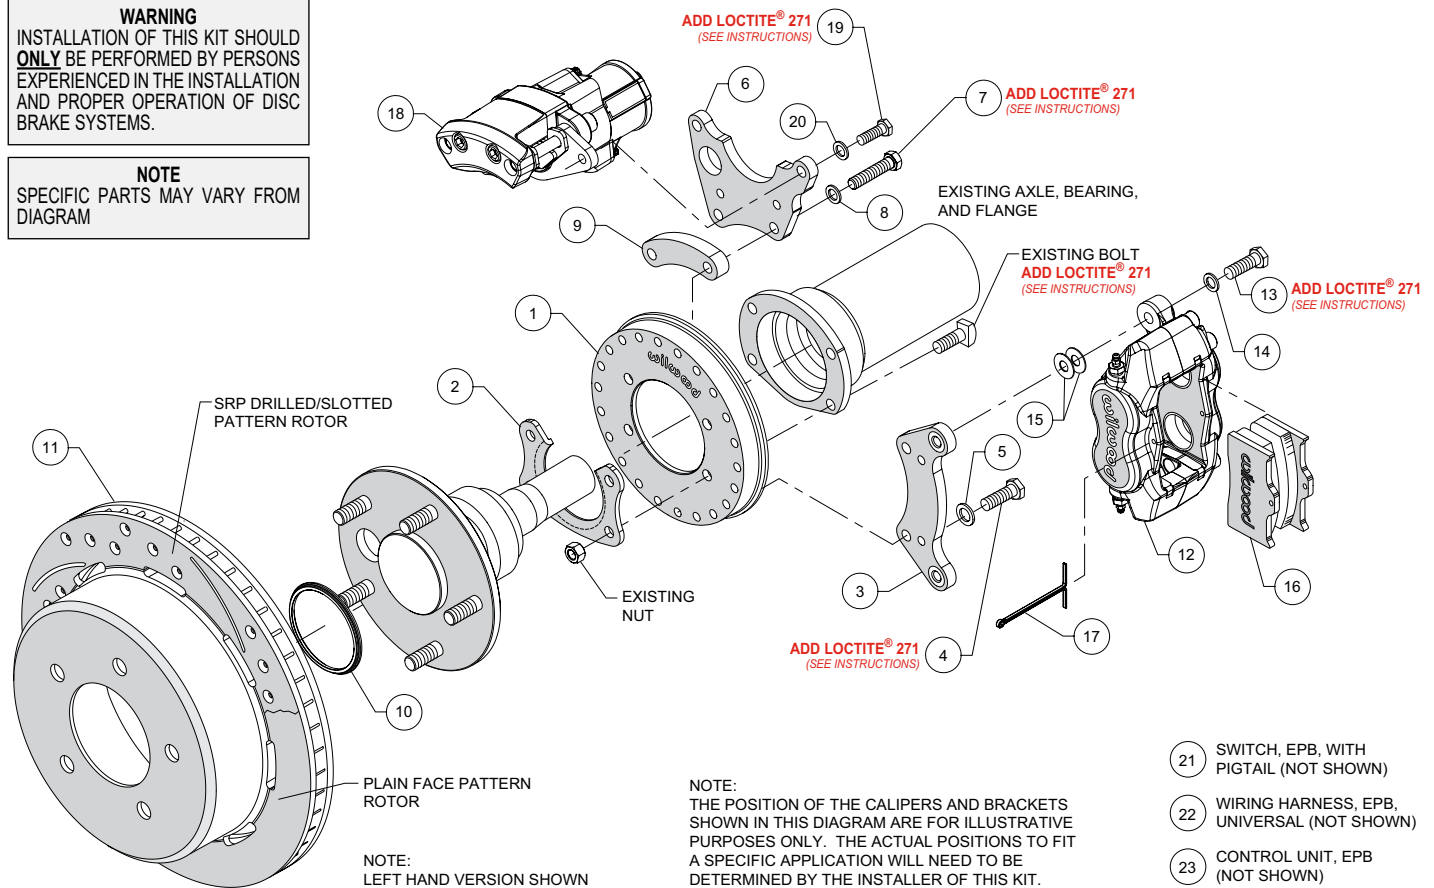
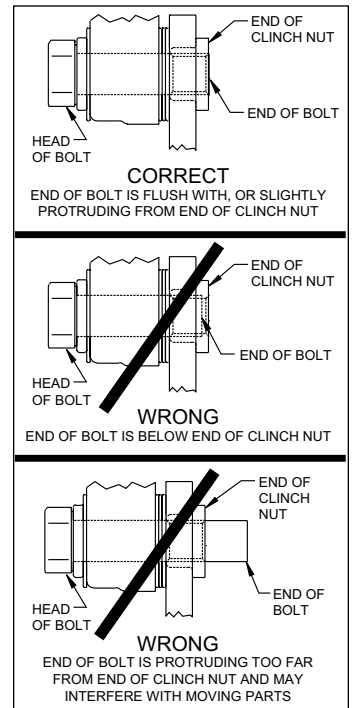

Figure 1. Typical Installation Configuration
Figure 5. Clinch Nut Engagement Diagram
NOTE: Numbers in parenthesis refer to the parts list and Figure 1 on the preceding pages.
CAUTION: All mounting bolts must fully engage clinch nuts. Be sure to check that all bolts are either flush or protruding through flanged side of clinch nut after shimming, Figure 5.
- Orient the backing plate (1) as shown in Figure 1 and Photo 1, and slide it onto the axle housing flange. Ensure the backing plate fits flush against the axle housing flange. Reinstall the axle into the axle housing.
- Install the bearing retainer (2) with the opening pointing upward and the lip facing inward (toward the bearing), as shown in Figures 1 and 4, and Photo 2. Secure retainer and backing plate to the axle housing flange using the Original Equipment Manufacturer (OEM) bolts and nuts, Figure 1 and Photo 3. Apply red *Loctite*® 271 to the OEM bolt threads and torque to OEM specifications.
•Start by determining the best location for the service caliper (12). This caliper is usually mounted in the 3:00 or 9:00 o'clock position, but may be rotated up or down approximately 45 degrees and still allow for proper bleeding, Photo 4. Orient the service caliper bracket (3) as shown in Figure 1 and Photo 5, and install to the backing plate (1) in the desired location using bolts (4) and washers (5). Temporarily tighten bolts. Next, mount the service caliper to the bracket using bolts (13) and washers (14). Temporarily tighten bolts. Check that the caliper (including inlet fitting and hose) has sufficient clearance to all surrounding components through the full suspension travel. Relocate the caliper/bracket on the backing plate as needed to ensure proper clearance is achieved.
•Determine the best location for the EPB caliper (18). **NOTE:** *The EPB caliper motor extends farther inboard than the service caliper and therefore needs additional consideration when determining a mounting location with sufficient clearance.* In the example application shown in Photo 6, the EPB caliper has sufficient inboard clearance to the leaf spring. However, if the EPB caliper were mounted closer to the 12:00 o'clock position, the inner body of the vehicle would hit the caliper during full compression of the suspension.
- Orient the EPB caliper bracket (6) as shown in Figure 1 and Photo 7, and install to the backing plate (1) in the desired location using bolts (7), washers (8), and spacer (9). Temporarily tighten bolts. **NOTE:** The EPB bracket is reversible. In one direction the bracket will position the EPB caliper closer to the service caliper, and vice versa if reversing the bracket. Next, mount the EPB caliper (18) to the bracket using bolts (19) and washers (20). Temporarily tighten bolts. **NOTE:** EPB calipers are Left and Right handed, however they can be used on either side of the vehicle to best suit your specific application. Check that the EPB caliper (including wiring harness connector) has sufficient clearance to all surrounding components through the full suspension travel. Relocate the EPB caliper/bracket on the backing plate as needed to ensure proper clearance is achieved.
- Once the caliper positions have been determined, remove both the service (12) and EPB (18) calipers, leaving both brackets in place on the backing plate. For both brackets, remove the bolts one at a time, apply red *Loctite*® 271 to the threads, and torque to 35 ft-lb.
- Slide the rotor registration adapter (10) onto the register on the axle flange with the smaller O.D. facing toward the rotor/hat (11), Photo 8. Align the hole pattern in the rotor/hat with the stud pattern on the axle flange and slide into place, Figure 1. **NOTE:** The rotor/hat must fit flush against the axle flange or excessive rotor run out may result. Install three lug nuts (finger tight) to keep the rotor/hat assembly in place while continuing with the installation. **NOTE:** Some OEM and after market axles come with stud sizes larger than 0.50" diameter. Verify stud size and have a qualified machine shop drill the bolt circle of the hat/rotor to the correct stud size, if necessary.
- NOTE:** Please reference the caution statement at the beginning of the assembly instructions. Remount the service caliper (12) onto the caliper mounting bracket (3) using bolts (13) and washers (14), as shown in Figure 1. Initially place two .035" thick shims (15) on each bolt between the caliper and the bracket, Photo 9. Temporarily tighten the mounting bolts and view the rotor (11) through the top opening of the caliper. The rotor should be centered in the caliper, Photo 10. If not, adjust by adding or subtracting shims (15) between the bracket (3) and the caliper (12). Always use the same amount of shims on each of the two mounting bolts. **NOTE:** The end of each bolt must be flush with or slightly protruding from the head of the clinch nut, as shown in Figure 5. If necessary place spare shims (15) between washer (14) and caliper (12) mounting ear to achieve the proper clinch nut engagement. Once the caliper alignment and clinch nut engagement are correct, remove the bolts (13) one at a time, apply red *Loctite*® 271 to bolt threads, and torque to 40 ft-lb.
- Mount the EPB caliper (18) onto the caliper mounting bracket (6) using bolts (19) and washers (20), Figure 1. Apply red *Loctite*® 271 to bolt threads, and torque to 30 ft-lb.
- NOTE:** *The service caliper (12) in this brake kit utilizes a 1/8-27 NPT pipe thread inlet. OEM rubber brake hoses generally cannot be adapted to Wilwood calipers.* The preferred method is to use steel adapter fittings at the caliper, either straight, 45 or 90 degree (use PTFE tape on pipe threads of adapter fitting for proper sealing to caliper) and enough steel braided line to allow for full suspension travel. **Carefully route hoses to prevent contact with moving suspension, brake or wheel components.** **NOTE:** *Wilwood hose kits are designed for use in many different vehicle applications and it is the installer's responsibility to properly route and ensure adequate clearance and retention for brake hose components.* Wilwood offers universal brake flex line hose kits, domestic (3/8-24 IF) chassis fittings, order: